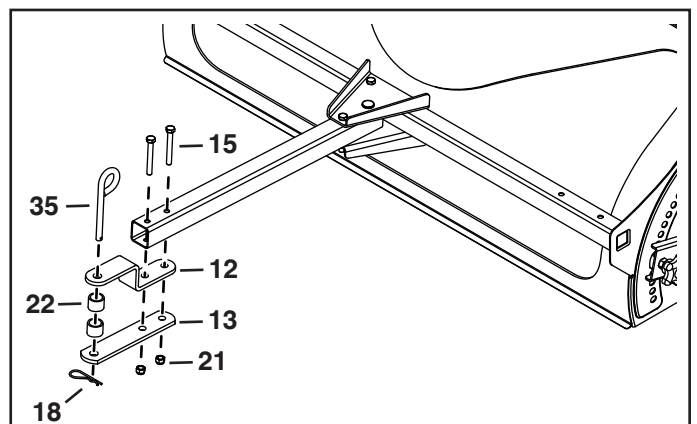

FIGURE 6
- Attach the hitch bracket (12) and straight hitch bracket (13) to the drawbar using two 5/16" x 2-1/2" hex bolts (15) and 5/16" nylock nuts (21). See figure 6.
- Assemble a 3/8" x 3" hitch pin (35) and two 3/4" spacers (22) to the hitch brackets. Secure them in place with a 3/32" hair cotter pin (18). See figure 6.